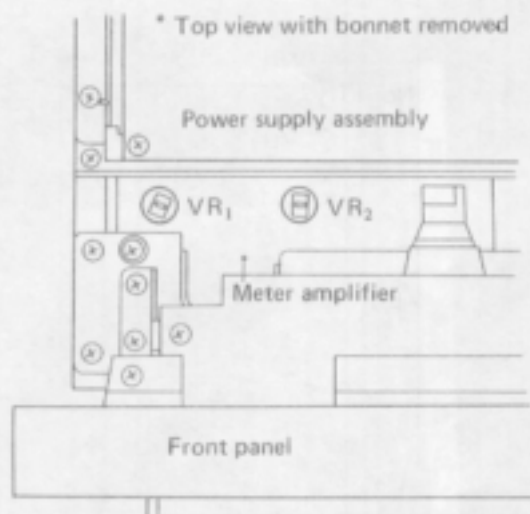

Fig. 15 Meter adjustment
2. Connect an AC voltmeter to speaker output terminal (A).
4. Adjust VR₁ (L) and VR₂ (R) for a meter indication of 0dB, as shown in Fig. 15.